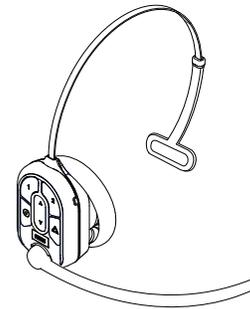

Fig. 1.2
- **Headset:** The headset allows you to communicate with other employees and customers within a store or drive-thru lane environment. (Fig. 1.2.)